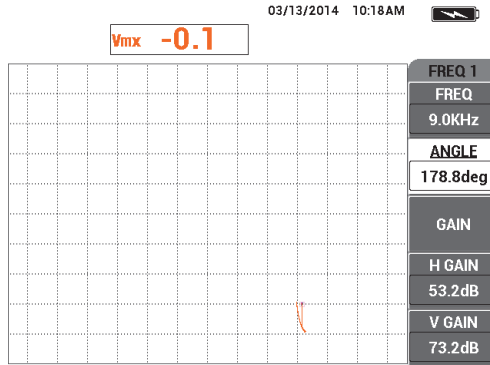

Figure 5-131 Adjusting the ANGLE value
29. While firmly pressing the probe on the business card, adjust the **ANGLE** (B key) until the mix signal (orange) reaches the same vertical height as the null point (see Figure 5-131 on page 219).